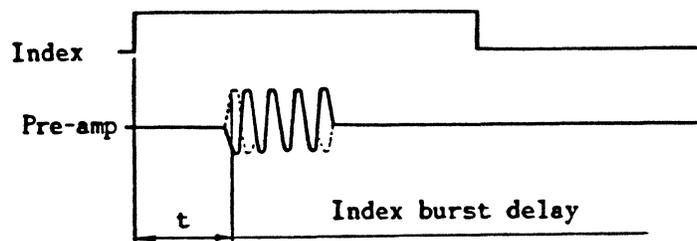

Fig. 420 Index Burst Timing
- (2) Start the spindle motor and load the alignment disk.
- (3) Shift the head to track 02. (F-5002, track 01)
- (4) Measure t of Fig.420.